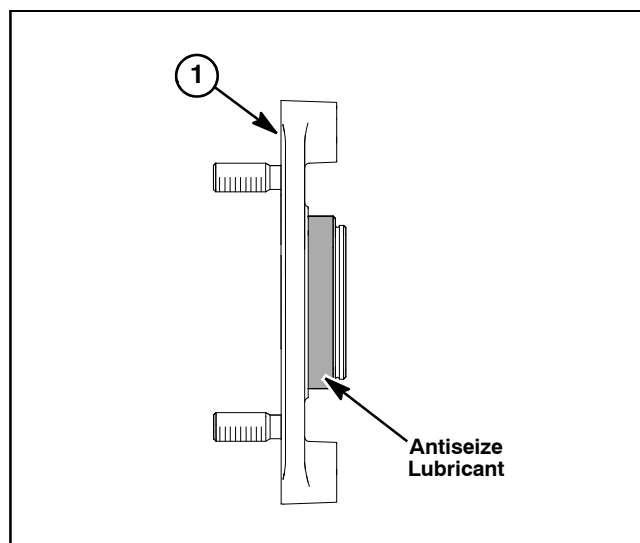

Figure 10
2. Apply antisieze lubricant to the outside diameter of the pivot hub (Fig. 10). Position idler arm over pivot hub.
3. Apply Loctite to two (2) socket head screws and secure pivot hub and idler arm to cutting unit side plate.